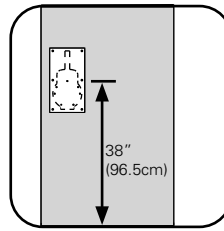

Figure 1
**NOTE: Centerline of two middle holes should be about 38" (96.50cm) from the floor. (Fig. 1) 38" is recommended.**